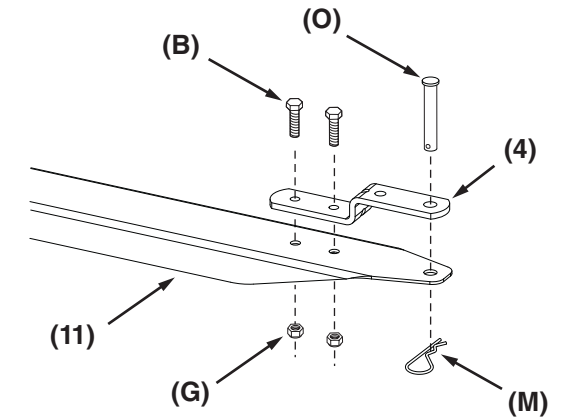

Figure 12
**STEP 12 (SEE FIGURE 12):** Attach the hitch bracket (4) to the tongue (11) using two 3/8" x 1" hex bolts (B) and 3/8" nylock nuts (G). Insert the hitch pin (O) and secure with 1/8" hair cotter pin (M).